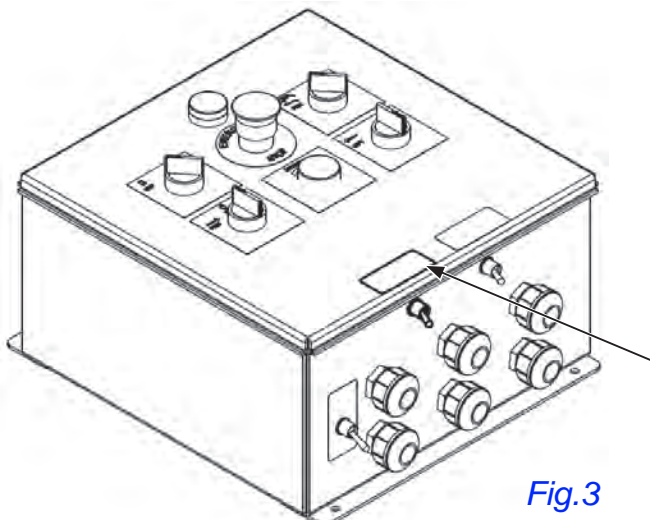

Fig. 3
8. Place supplied decal to front face of control panel lid, centered over Night Light Kit toggle switch. See Fig. 3.